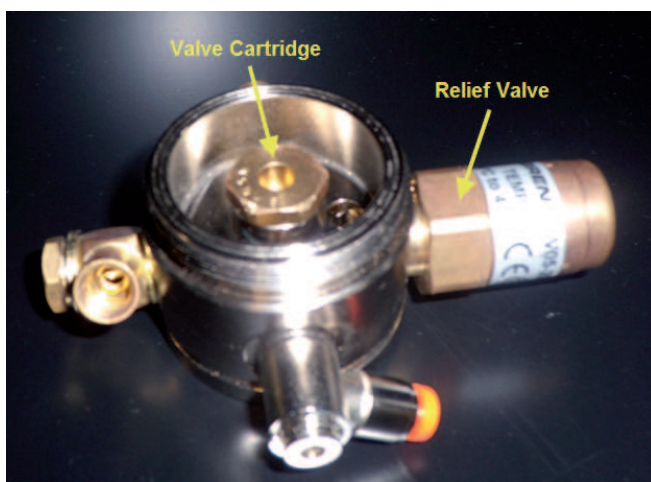

Figure 74 - Valve Cartridge and Relief Valve
5. Using a 17 mm socket, remove and discard the valve cartridge. Using a crescent wrench, remove and discard the relief valve (Figure 74).